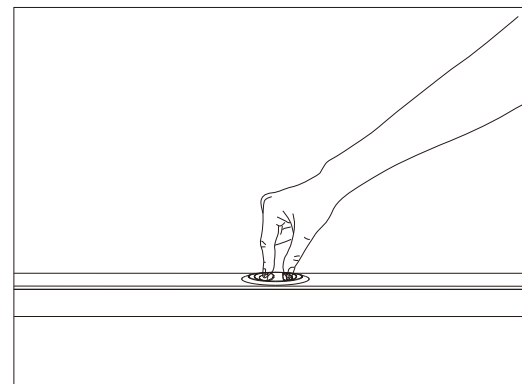
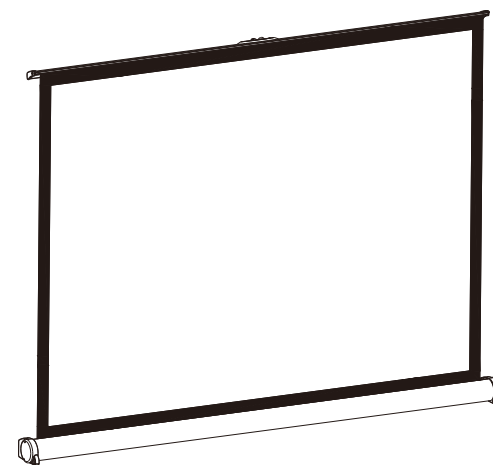

Figure 2-1
Figure 2-2
2. According to figure 2-1, use fingers to hold the opener, and then pull the screen up to your desired position slowly (figure 2-2)